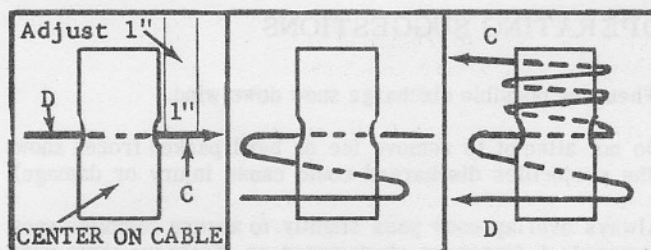

Figure 8
Cable lead (C) should be 2" longer than cable lead (D). If cable leads are not set in this manner, unwrap cable from cable tube until cable unwinds on cable tube. Loosen wrap of cable and lengthen proper end of cable 1" (Fig. 8) or to allow proper angle of discharge spout. This should allow equal angle both ways.